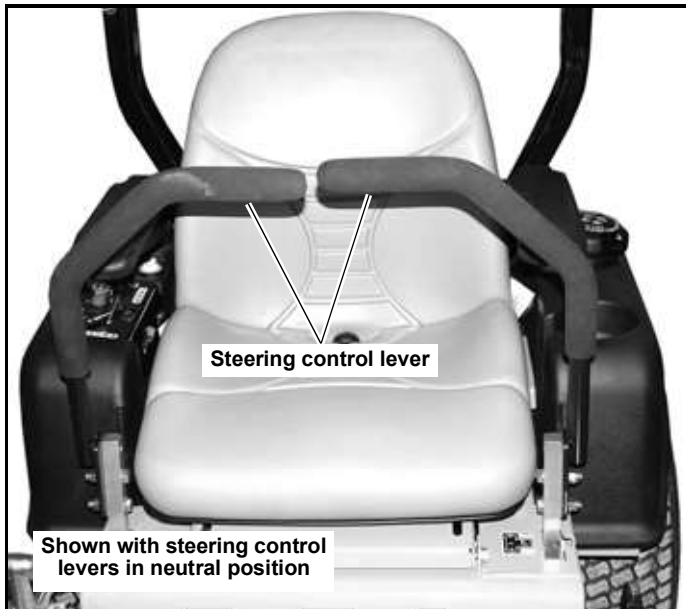
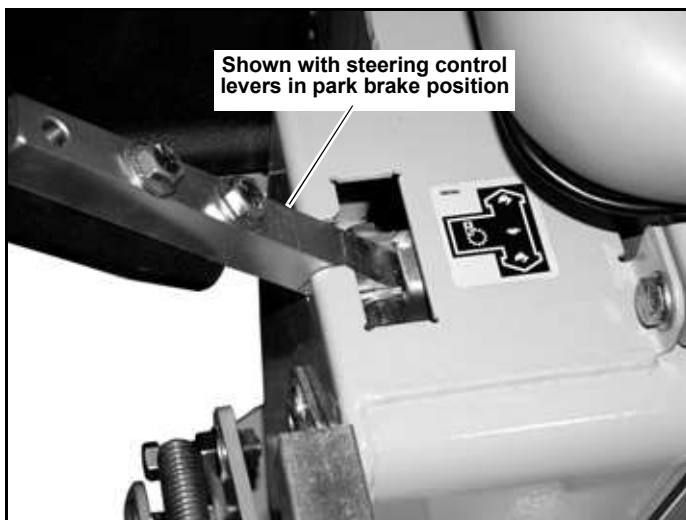

Figure 3-3
Figure 3-4
- A. Steering control levers (Figure 3-3 & Figure 3-4)** — these levers control the mower’s speed, direction, stopping, and park brake. These levers are used to steer, accelerate, decelerate and change direction. When the steering control levers are in the park brake position the